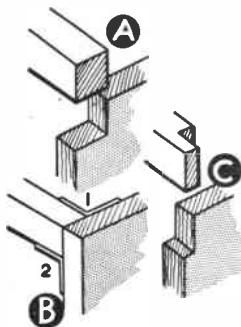

Fig. 3
The rails are slotted into the ends as shown in Fig. 2. Three methods of fixing are shown in Fig. 3. Note that at B the rail is secured by an angle plate in position 1 or 2. Continue by pinning the back (C) in place as shown in Fig. 4.